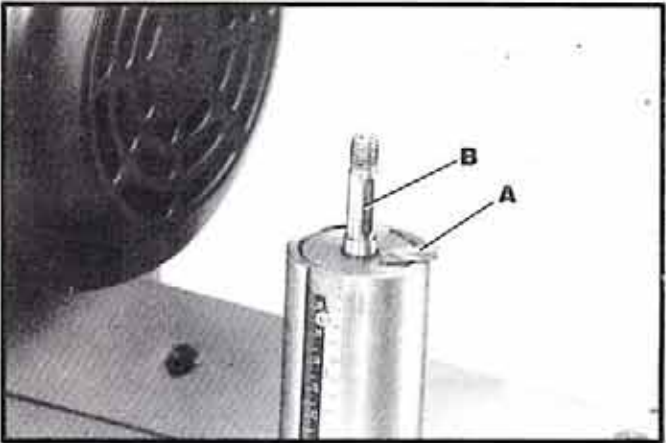

Fig. 5
1. Insert key (A) Fig.5, into keyway (B) of raising and lowering shaft.